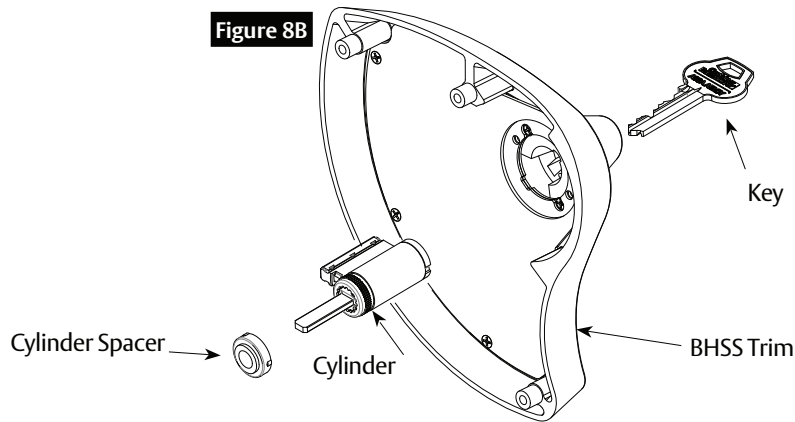

Figure 8B
1. Install cylinder into the lever. (Figure 8B)